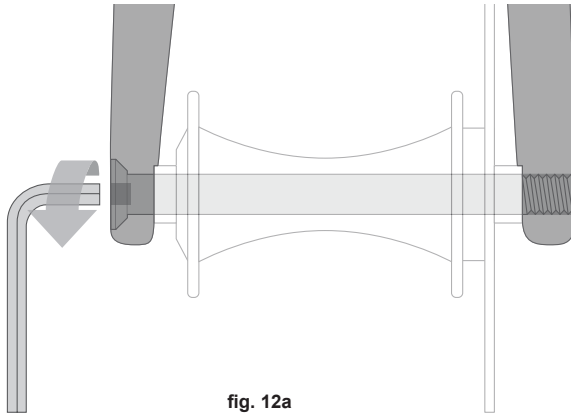
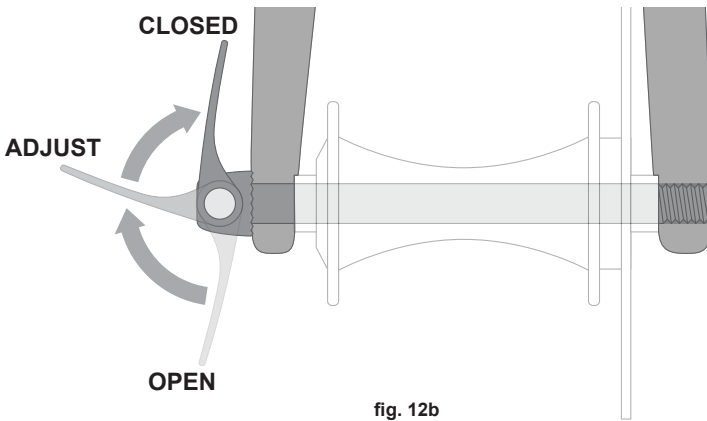

fig. 12a
fig. 12b
a. Adjusting the thru axle mechanism (fig. 12a 12b)
The thru axle is inserted through the unthreaded hole in the frame or fork's dropout, through the wheel hub, and is threaded directly into the opposing dropout by tightening the thru axle. Common installation methods may use an Allen hex key (fig. 12a) or a cam lever (fig. 12b). Please refer to the manufacturer's instructions for specific information about your thru axle's operation, including correct torque specifications or lever adjustment information.
(4) If your bike has a thru-axle front wheel mounting system (figs. 12a & 12b), loosen and remove the thru axle according to the manufacturer's instructions, then remove the front wheel.
- c With a thru axle system, tighten the thru axle (figs. 12a & 12b) according to the manufacturer's instructions.
(5) If your bike has a thru-axle rear wheel mounting system (figs. 12a & 12b), loosen and remove the thru axle according to the manufacturer's instructions.
(6) Push the rear wheel forward far enough to be able to remove the chain from the rear sprocket, then lift the rear wheel off the ground a few inches and remove it from the rear dropouts.
c With a thru axle system, tighten the thru axle (figs. 12a & 12b) according to the manufacturer's instructions.